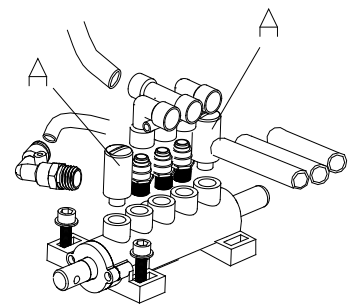

Fig 27
2. Loosen the valve mufflers (A) which belong to Jaws open and close Pedal and Bead Breaker Pedal;
3. Clean the mufflers with compressed air, please replace it referring to the spare parts list if it is damaged. **(Fig27)**